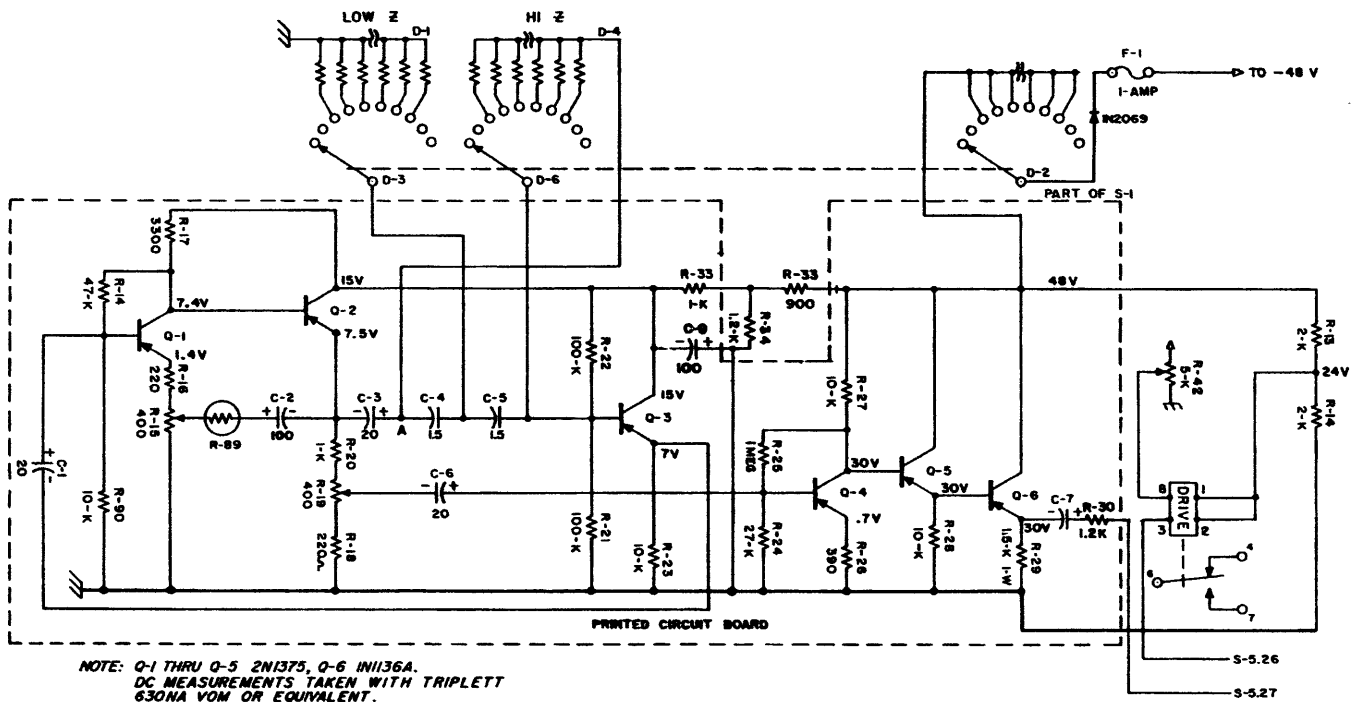
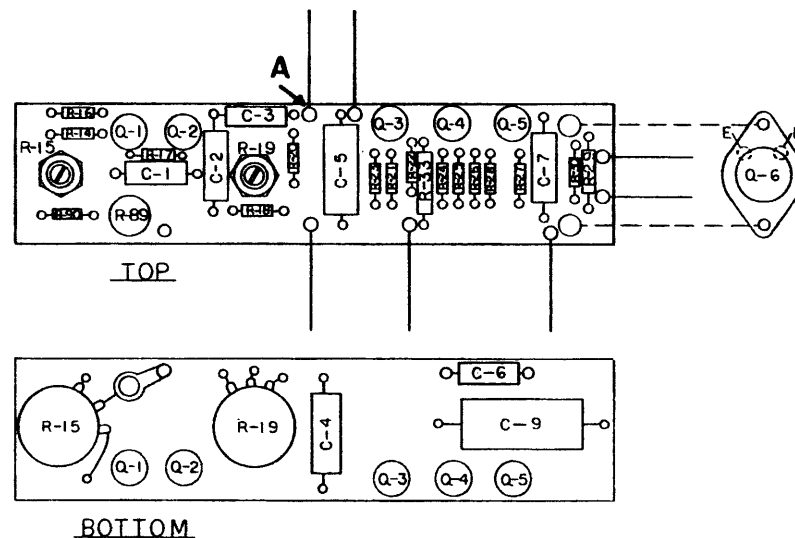

Figure 5-1
Figure 5-2
4.38 The circuit diagram to which the following description applies is shown in fig. 5.1. The location of the component part of this circuit is shown in fig. 5.2.
5.6 Referring to fig. 5-1, connect an oscilloscope between point A and ground. Point A is shown in fig. 5-2 which is the drawing of the printed circuit board assembly. The sine wave voltage appearing between these two points should be approximately 2.5 volts peak to peak. If not, adjust potentiometer R15 to achieve this level. Turning R15 in a clockwise direction increases the positive feedback, and therefore increases the output level at point A. There should be no fluctuation of the signal level at this point once the level has been adjusted to approximately 2.5